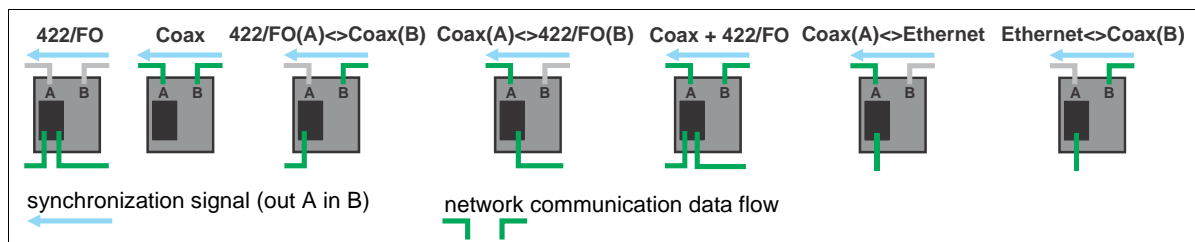

Figure 76: FlexZone network connections
2. Specify the Connection scheme for network communications (see Figure 76:).